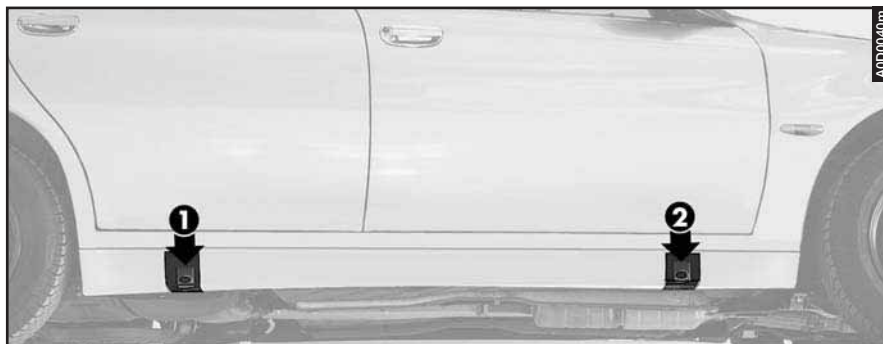

fig. 6
– Position the jack under the car next to the wheel to be replaced (**fig. 6**):
— Position the jack under the car next to the wheel to be replaced (**fig. 6**):